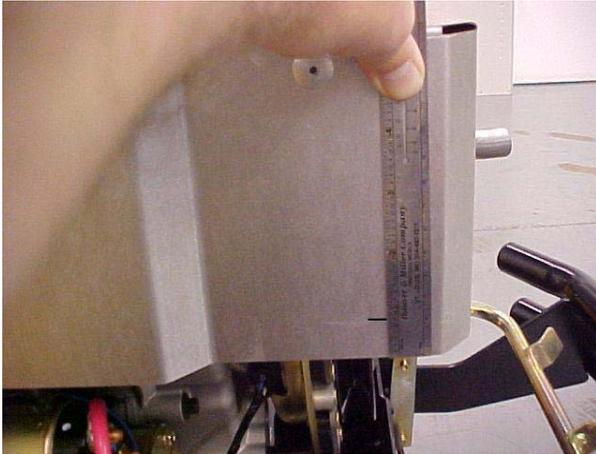

FIGURE 11
2. Measure from bottom of the existing muffler shield $24/32"$ (.765") and place a reference mark as shown in Figure 11. approximately in the center line of the P.T.O. clutch retaining bolt.